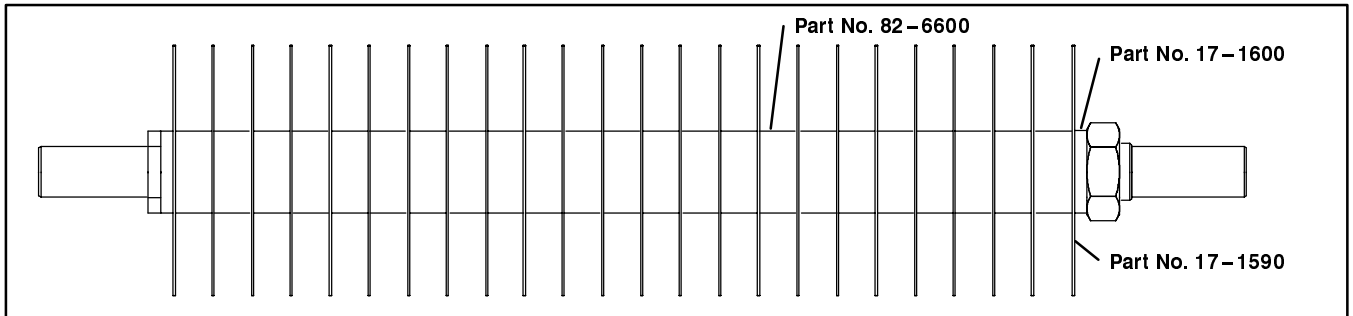

Figure 16
3/4" Spacing, (Standard) – Includes (24) Blades (part no. 17-1590) (2) 1/4" Thick Spacers (part no. 17-1600) (23) 3/4" Thick Spacers (82-6600) (Fig. 16).